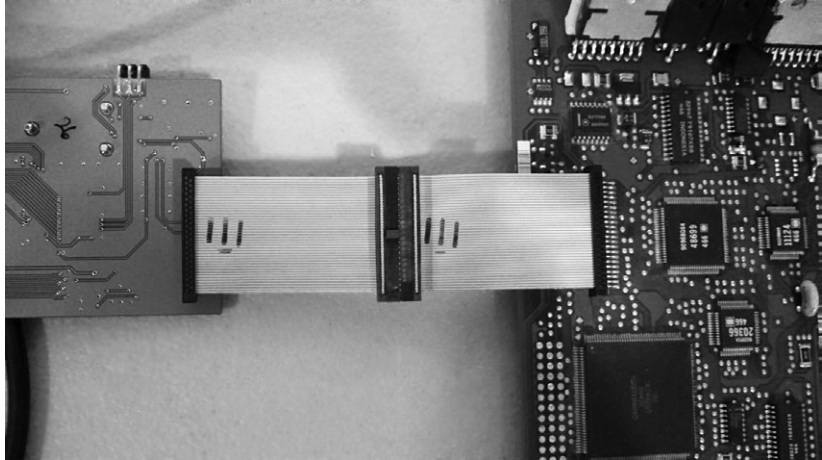

Figure 13-2: The RoadRunner emulator connected to a Chevrolet 12200411 LS1 PCM
**RoadRunner** A ROM emulator aimed at 16-bit EPROMs, like 28F200, 29F400, and 28F800 in a PSOP44 package (see Figure 13-2). It is also relatively inexpensive at about \$489 and features a USB interface with an open command set and many tuning applications that already have native support (<https://www.moates.net/roadrunnerdiy-guts-kit-p-118.html>).